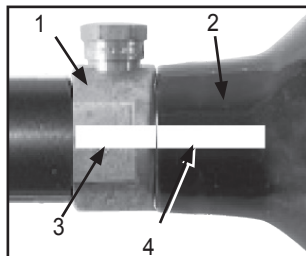

Figure 4: Properly marked Valve and Cylinder
The brass or nickel plated cylinder valve (Figure 4, #1) is intended to be permanently attached to the air or CO2 cylinder (2).
Refer to Figure 4. There have been reported incidents caused by players unknowingly unscrewing the cylinder (2) from the cylinder valve (1). This occurs when the player thinks the entire valve-cylinder assembly is being unscrewed from the air/CO2 supply adaptor of the paintball marker, when in fact he/she is unscrewing the cylinder from the cylinder valve.
4. Watch the marks on the cylinder and cylinder valve (as shown in Figure 4 on page 10) as you turn the cylinder approximately $\frac{3}{4}$ turn counterclockwise. This allows the air/CO2 supply pin valve to close so that no air/CO2 will enter the marker.